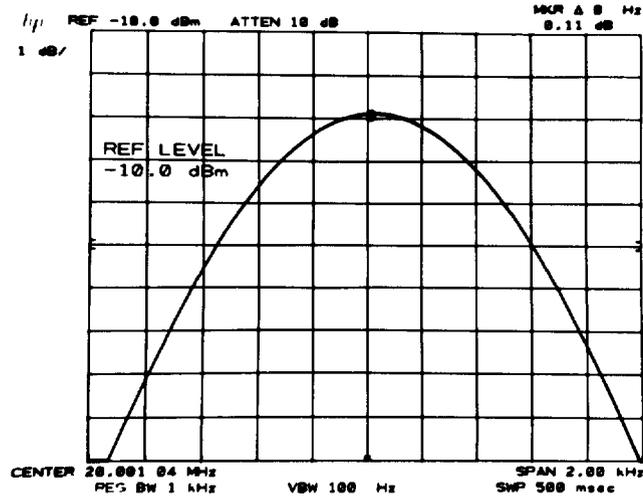

FIGURE 10. IF GAIN UNCERTAINTY MEASUREMENT
12. Set the analyzer **REFERENCE LEVEL**, **VIDEO BW**, and frequency synthesizer amplitude according to Table 9 settings. (Use the frequency synthesizer **↓** for 10 dB steps.) At each setting, note the MKR Δ amplitude displayed in the upper right corner of the analyzer display (deviation from the 0 dB reference setting) and record it in the table. See Figure 10.